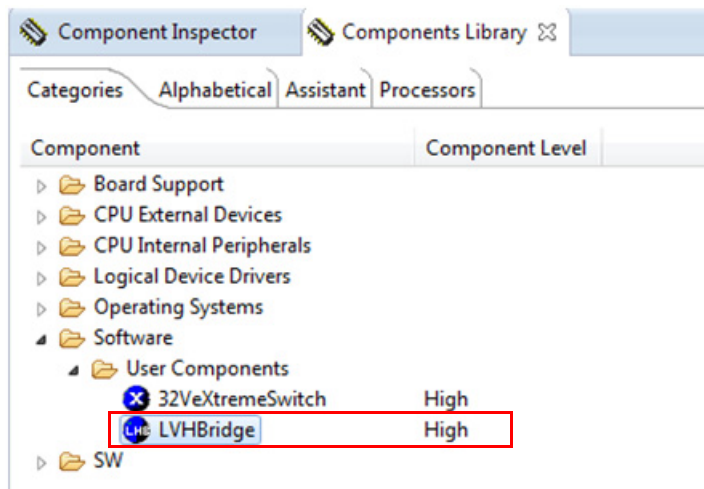

Figure 7. LVHBridge component location after CodeWarrior import
3. If the import is successful, the LVHBridge component appears in Components Library -> SW -> User Components (see Figure 7). Note that the component ChannelAllocator is not visible, because it is not designed to be used by users. The LVHBridge component is ready to use.